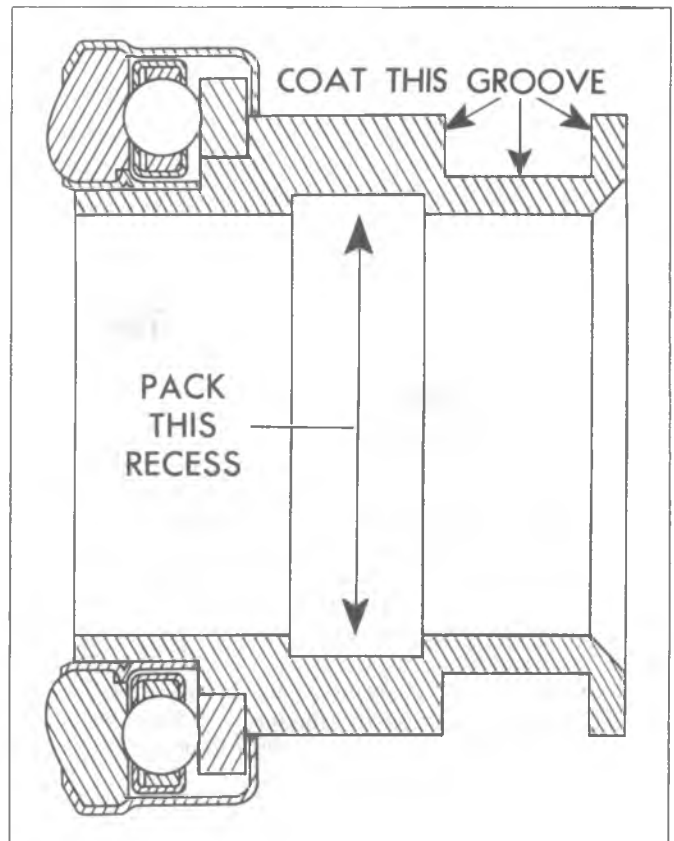

Fig. 8—Lubrication Points on Clutch Throwout Rearing
10. Pack lubricant in the recess on the inside of the throwout bearing collar and coat the throwout fork groove with a small amount of graphite grease (fig. 8).